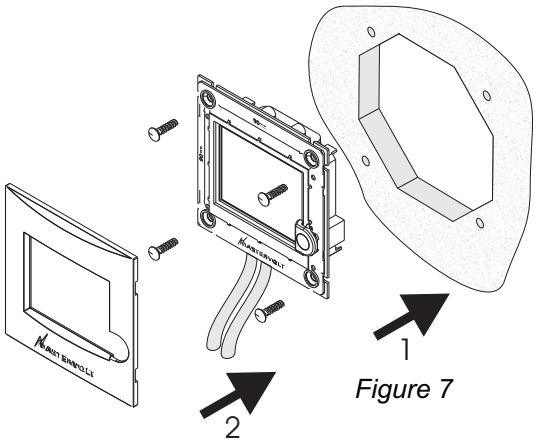

Figure 7
- Mount the MasterView Easy onto the panel (1) and then reattach the front (2), see figure 7.
- Drill the holes using the dimensions inside the outer housing and fasten the outer housing (1).
- Insert the MasterBus connection cables into the MasterBus data ports and click the panel into the outer housing (2).